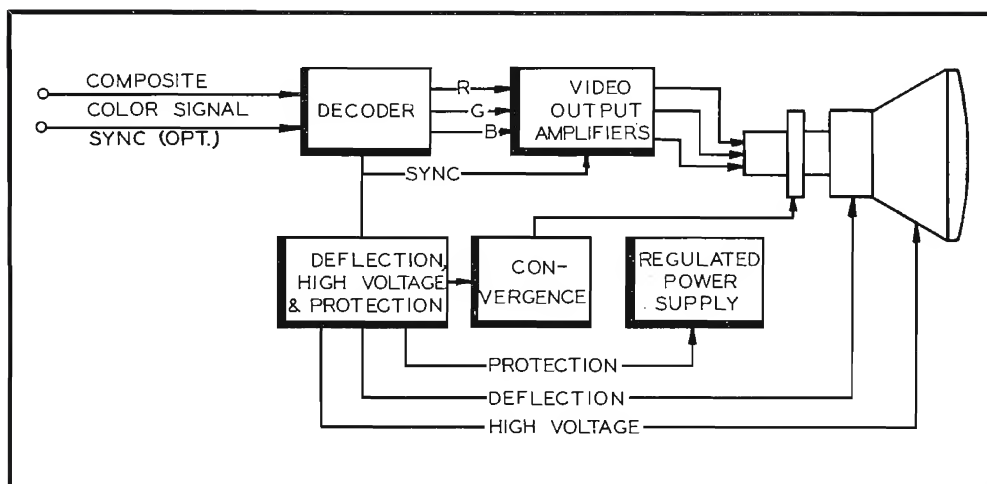

FIG. 2. Over-all block diagram, showing the five major chassis in the TM-21.
and (5) power supply. The relationship between these chassis is shown in Fig. 2. The functions of the five chassis are described briefly as follows:
- (1) The *decoder* processes the composite color signal to derive red, green, and blue signals suitable for controlling the color kinescope. It also contains a sync separator and a sync interlock circuit which permits optional use of external synchronizing pulses.
- (2) The *output amplifiers* increase the amplitudes of the signals from the decoder to the levels needed to drive the electron guns of the kinescope. They also provide for the restoration of the DC components of the signals.
- (3) The *deflection and high-voltage chassis* is controlled by composite sync from the decoder chassis. It provides sawtooth currents for the deflection yoke of the color kinescope, plus a source of regulated power at 25 kilovolts for the kinescope ultor. The protection circuits, which prevent kinescope damage from certain types of failure or improper operation, are located within this unit.
- (4) The *convergence chassis* develops second-order deflection currents, which are applied to the convergence yoke on the color kinescope for the purpose of adjusting the shapes of the red, green, and blue rasters so that they may be properly registered in all parts of the picture.
- (5) The *power supply* provides regulated +B power for the other chassis.